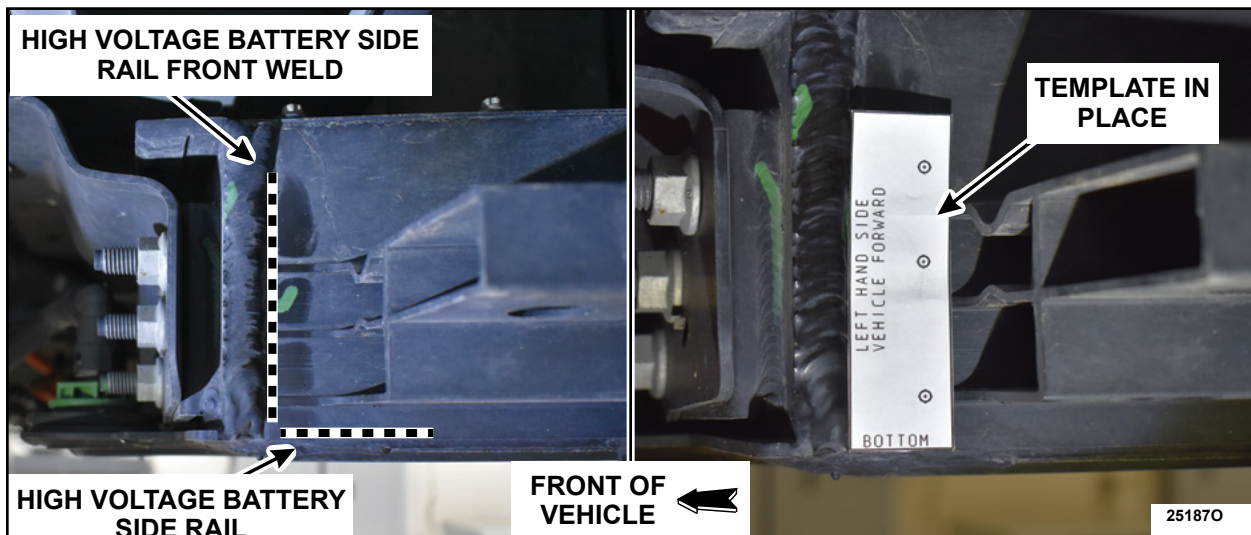

FIGURE 16
4. Cut out the and align the template with the bottom of the high voltage battery side rail and the front weld. See Figure 16.